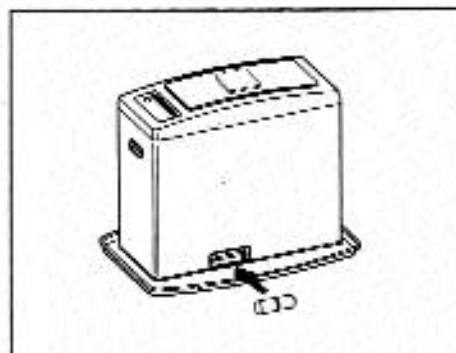

Fig. 3
6. INSTALLING BATTERIES (Fig. 3)
- Insert two (2) "D" cell batteries (supplied with this heater) according to the plus (+) and minus (-) markings inside of the holder.